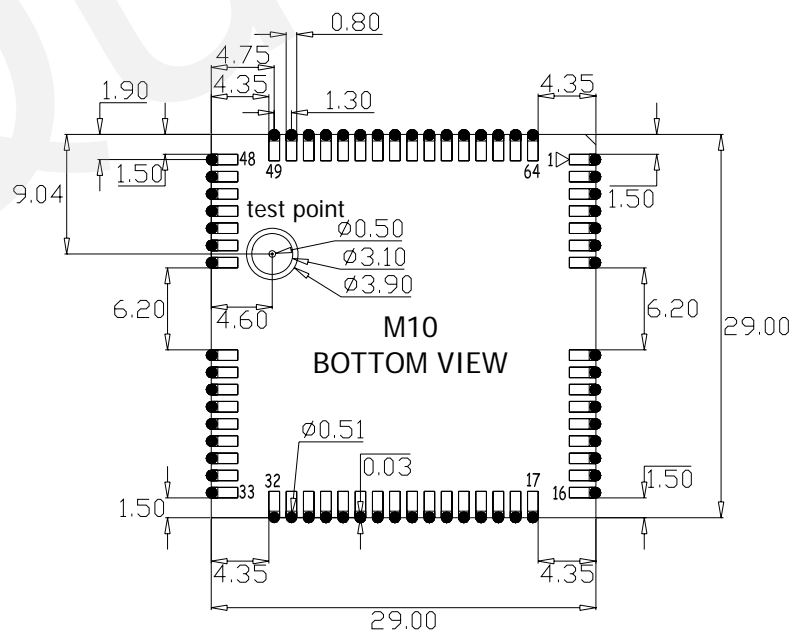

Figure 9: M10 RF_ANT PCB layout
- An RF test point is located at the bottom side of M10 for manufacture purpose. The copper which is close to this test point in the top layer of customer's host board must be kept out or removed. No signal trace should be placed in the top layer and the second layer beneath this test point. The location of the test point and the size of removed copper are as Figure 9.
If antenna PAD is adopted, Figure 9 is a reference design for a four-layer PCB. Make the space on all layers beneath antenna pad keep-out. Place a ground PAD near the antenna PAD. The distance between GND PAD and antenna PAD can be around 1.8mm. The size of antenna PAD can be 1.8mm*1.8mm, and the GND PAD should be a little bigger, e.g. 2.5mm*2.5mm. Add several GND via near or on the GND PAD to reduce impedance from the GND PAD to the RF reference ground.